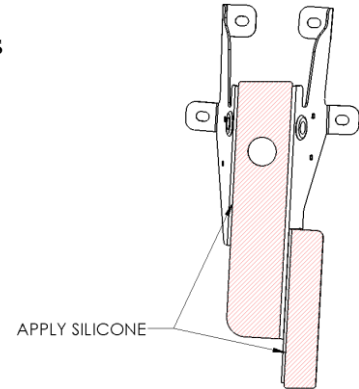

Figure 8
- a. Apply silicone to inner bracket (IBD/IBP) faces (see figure 8)
- a. Apply silicone to outer bracket faces (same as figure 8 from step 7a)
- d. Fasten outer visor sections D/ P to center visor section C using (3) 1/4-20 x 3/4" bolts with flat washers and locknuts
- e. Fasten the outer visor halves D/P to the Ear Brackets EBD/EBP with (2) polished 1/4-20 carriage bolts, with washers, and locknuts at each side.